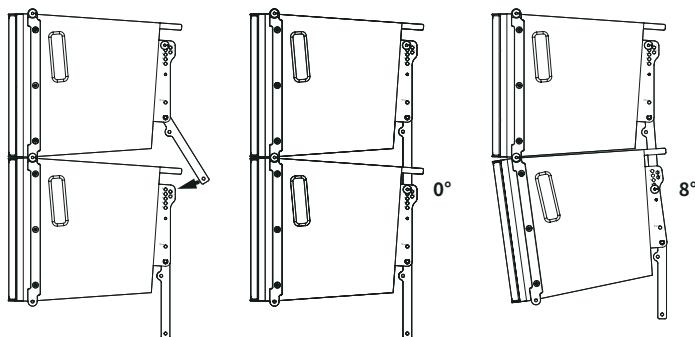

Figure 14. Front and rear linking in M-F3A PRO line arrays.
7. Connect the rear rigging piece of the second box with the deployable bar of the first one. Lock the security pin of the new box in the correct hole, setting the desired aiming angle with the nine positions available, as shown in figure 14.